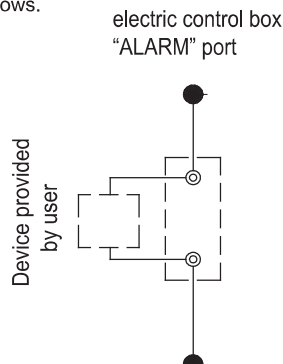

Fig. 8-23 Wiring of "ALARM" port
- h) The by-pass pipes and by-pass valves as shown in Fig.8-23 must be mounted for the heat exchanger, to facilitate cleaning of the outside system of water passage before the unit is adjusted. During maintenance, the water passage of the heat exchanger can be cut off without disturbing other heat exchangers.